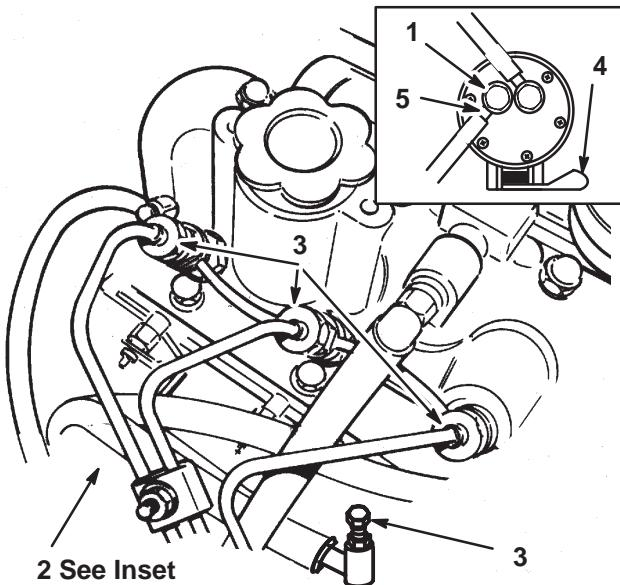

Figure 36
2. Bleed screws (2)
- When a steady stream of fuel flows out of the transfer pump screw, tighten the screw, retaining the angle of the fitting before loosening (Fig. 36).
- Loosen the injection pump inlet screw on the front of the engine (Fig. 36).
- Pump the priming lever (Fig. 36) until a steady stream of fuel flows out of the injection pump inlet screw, then tighten the screw. Do not over-tighten the screw as damage may occur.